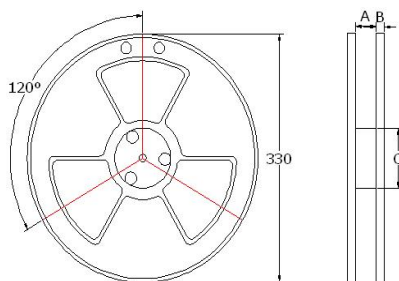

Fig.6.1-1
- (1) Tape carrier packaging are specified in attached figure **Fig.6.1-1~2**
- (2) Tape carrier packaging quantity: